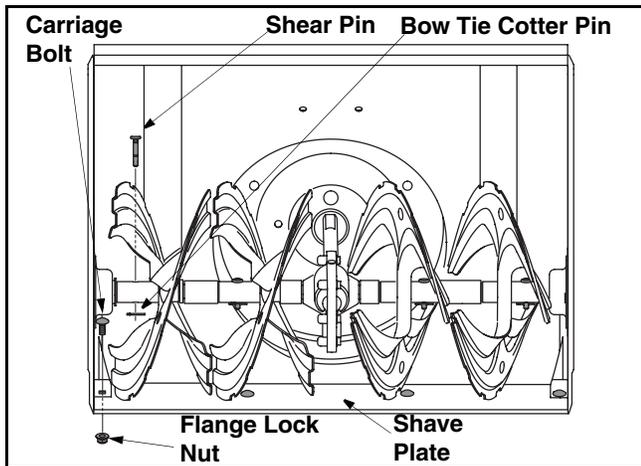

Figure 17
- The augers are secured to the spiral shaft with shear pins and bow tie cotter pins. If you hit a hard foreign object or ice jam, the snow thrower is designed so that the pins may shear. Refer to Figure 17.
- To remove the shave plate, remove the carriage bolts and flange lock nuts which attach the shave plate to the snow thrower housing. See Figure 17.